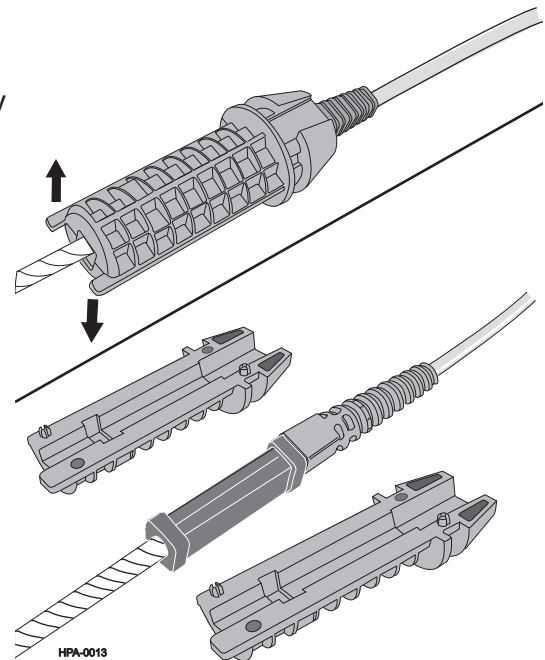

Figure 14
Step 7: Remove the coupler halves from the trunk furcation body and dispose of the coupler assembly (Figure 14).